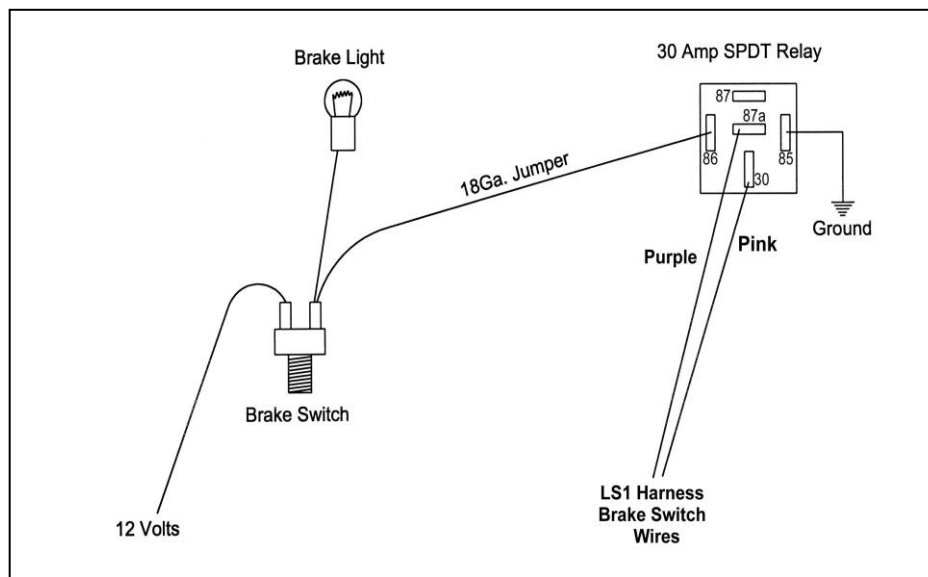

FIGURE 6.3 Brake Switch Relay
- G.** If your vehicle has a pressure type brake switch, you may use a relay as shown in **Figure 6.3**. The relay must be a **SPDT Relay** and wired correctly or it could result in a dangerous situation with the vehicle. The torque **converter may not unlock**.